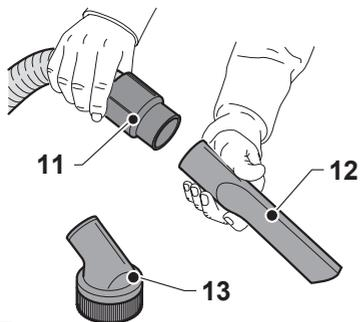

Fig. 6
- Attach a crevice tool (12 Fig. 6) or dusting brush (13 Fig. 6) to the flexible hose (11 Fig. 6) depending on the type of cleaning to be performed.